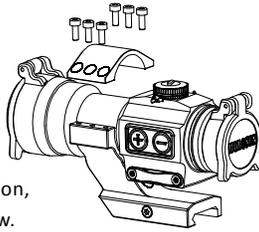

Fig 4
- Mount the sight on the bracket and follow the orientation and position which are shown in Fig 4.